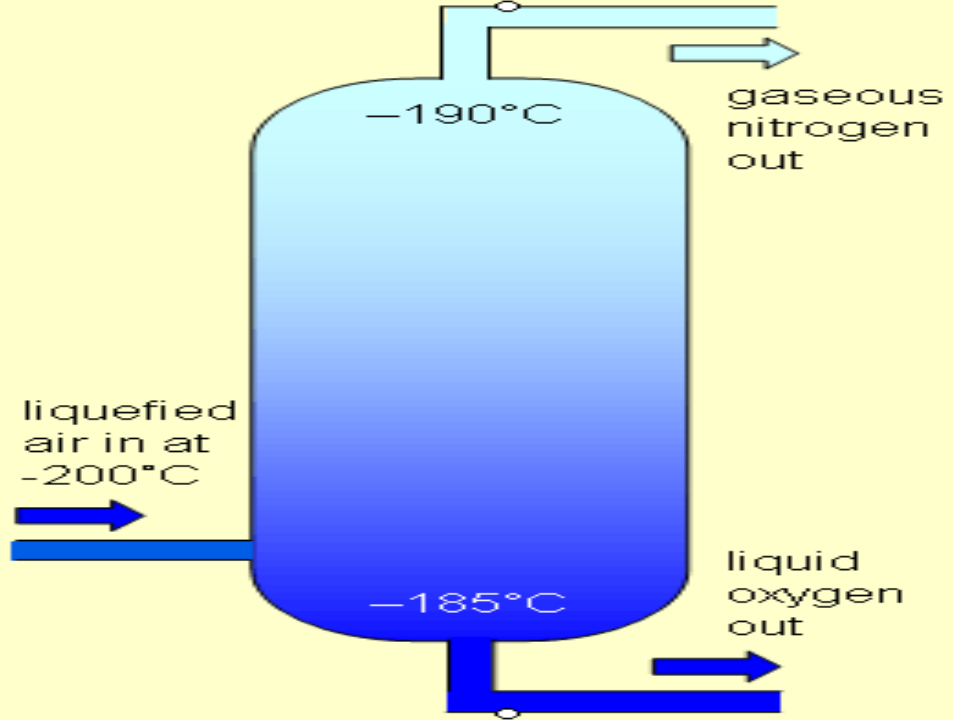

Figure 2: Fractional distillation of air
1. What will happen if the temperature of the column is maintained at -196°C (Figure 2)?